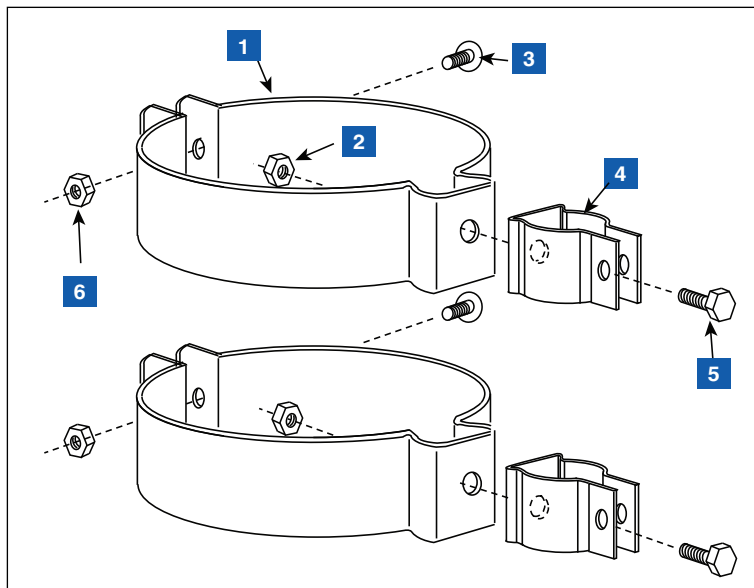

Figure 28. Attaching 12.7 mm [1/2"] Conduit Clamps to Riser Hangers
1. Attach the two 12.7 mm [1/2"] conduit clamps to the two riser hangers from the installation hardware kit (330020–528 or 330020–835) (50.8 mm [2"] or 101.6 mm [4"], as required) as shown in Figure 28. Orient riser hangers so holes for 12.7mm (1/2") clamps are vertically aligned.
LEGEND FOR NUMBERED BOXES IN Figure 28